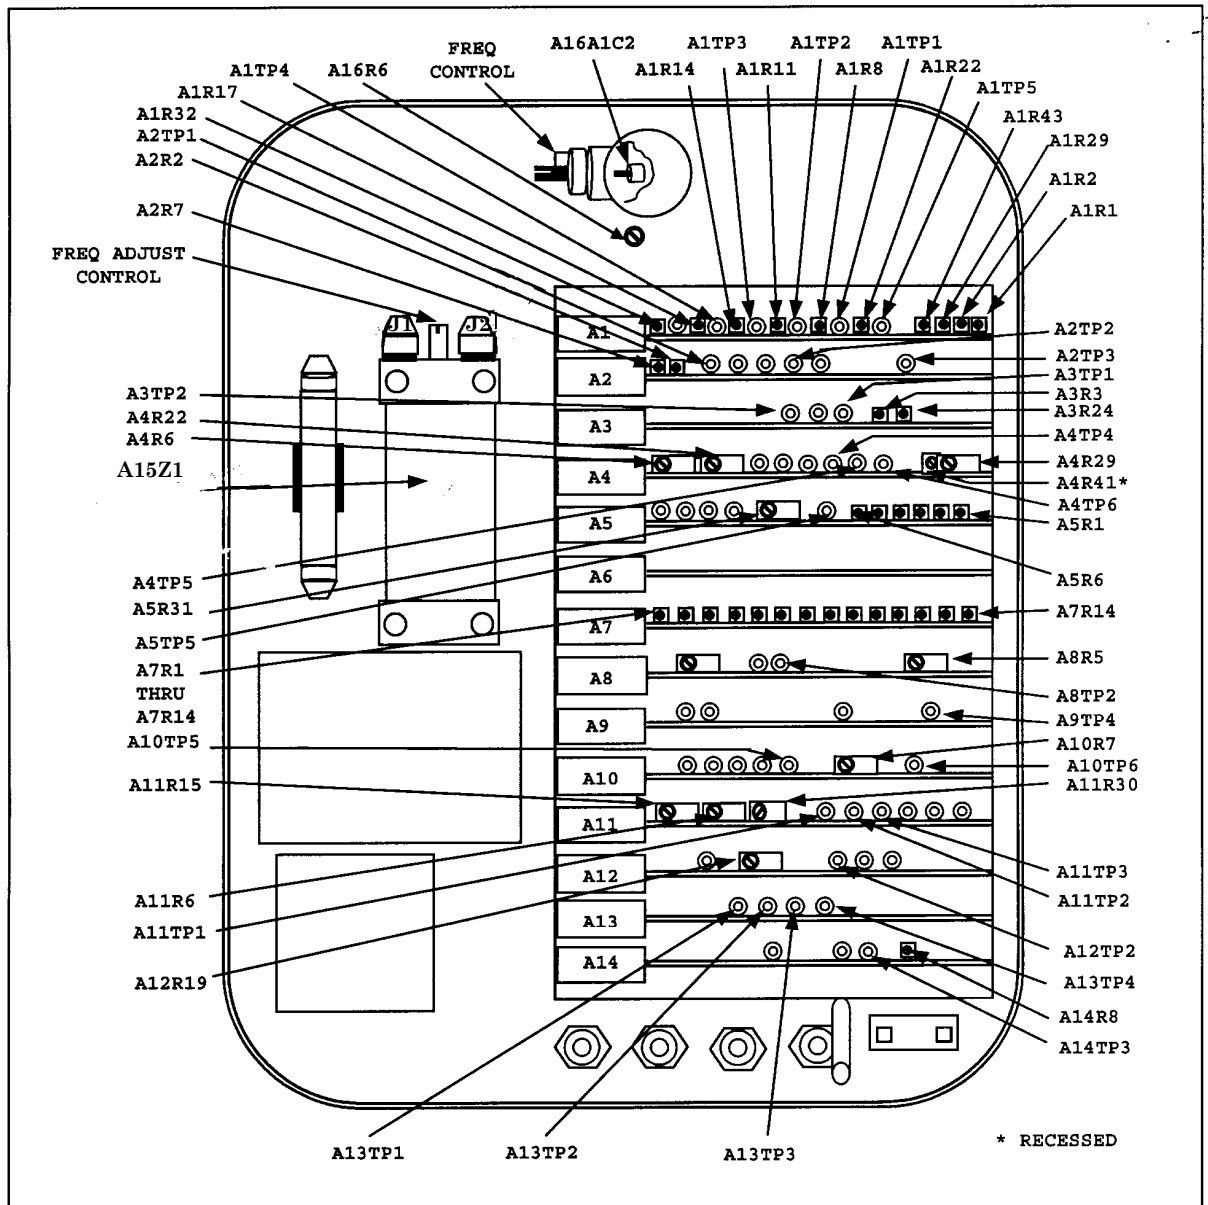
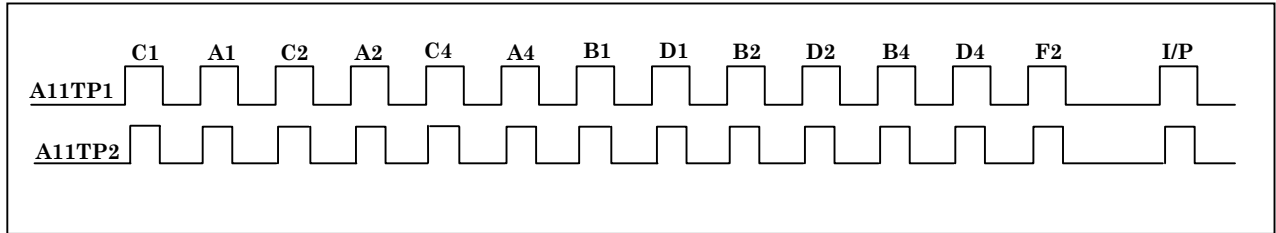

Figure 2. Test instrument adjustments and test points.
Figure 3. Comparison pulse position.
(1) Install variable attenuator between RTS **Main RF I/O** connector and circulator **PORT 1**. Set **Menu 11 RF** power to **0 dBm** and adjust variable attenuator for -9 dBm on peak power meter.
(2) On **Menu 11** set **CW** to **OFF**.
(3) Disconnect cable from peak power meter and reconnect to TI **Probe** connector. Adjust A8R5 (fig. 2) until **ACCEPT** light glows. Decrease RTS **RF** power by 1 dBm. TI **REJECT** indicator will glow.
(4) Remove variable attenuator and reconnect circulator to **MAIN RF I/O**.
(5) Repeat **a(1)** through (5).
(1) Disconnect cable from RTS oscilloscope **CH 1** to **DEMOD OUT** connector and connect oscilloscope **CH 1** (using X10 probe in RTS accessory kit) to test point A8TP2 of TI (fig. 2).
(2) On RTS select **Menu 10** and set **FREQUENCY** to **1090 MHz**.
(3) Loosen (slightly) locknut of TI **FREQ ADJ** control at preselector A15Z1 (fig. 2) and adjust **FREQ ADJ** control until displayed pulse is peaked (R).
(4) Retighten **FREQ ADJ** control locknut, while using a screwdriver to maintain a peaked pulse.
- (6) Loosen base plate of jack A15Z1J1 (fig. 2) and A15Z1J2 (fig. 2).
- (7) Remove jacks A15Z1J1 (fig. 2) and A15Z1J2 (fig. 2) from TI. Observe direction of each probe and mark position of one side on each jack.
- (8) Replace each jack and fasten A15Z1J1 (fig. 2) in position (mark pointing at **FREQ ADJ CONTROL**).
- (9) Position jack A15Z1J2 (fig. 2) using mark approximately 10 degrees from A15Z1J1 (fig. 2) mark. Fasten A15Z1J2 (fig. 2) in position.
- (10) Perform a(1), (2), and (4) above.
- (11) If the bandwidth is too broad, rotate the mark on jack A15Z1J2 (fig. 2) slightly toward mark on jack A15Z1J1 (fig. 2). If bandwidth is too narrow, adjust it slightly away from mark at A15Z1J1 (fig. 2).
- (12) Fasten jack A15Z1J1 (fig. 2) by replacing baseplate.
- (13) Determine bandwidth as described in a(1), (2), and (4) above. If necessary, repeat (11) and (12) above.
- (1) Disconnect cable from RTS oscilloscope **CH 1** and **DEMOD OUT** connector and connect X10 oscilloscope probe from **CH 1** to test point A10TP5 (fig. 2).
- (2) Connect second X10 probe (also from RTS kit) from oscilloscope **CH 2** to test point A4TP6 (fig. 2).
- (3) Press oscilloscope **AUTO-SCALE** pushbutton and set **TIME/DIV** switch to **1 μ s**. Delay from leading edge of second pulse on **CH 2** to trailing edge of pulse on **CH 1** should be between 1.6 and 2.0 μ s; if not, perform **b** below.
- (4) Disconnect oscilloscope **CH 1** probe from A10TP5 and connect to test point A8TP2 (fig. 2).
- (5) Disconnect oscilloscope **CH 2** probe from A4TP6 and connect to test point A9TP4 (fig. 2).
- (6) Press oscilloscope **AUTO-SCALE** pushbutton once again and set **TIME/DIV** switch to **2 μ s**. Delay between leading edge of last pulse on **CH 1** and trailing edge of pulse on **CH 2** will not exceed 6 μ s.
b. Adjustments. Adjust test instrument video enable delay control A10R7 (fig. 2) until delay from leading edge of second pulse on **CH 1** to trailing edge of pulse on **CH 2** is 1.8 μ s (R).
(1) Disconnect oscilloscope probes from test points A8TP2 and A9TP4 (fig. 2). Connect **CH 1** probe to test point A11TP1 (fig. 2).
(2) Set oscilloscope **TIME/DIV** switch to **100 ns**, **TRIGGER SOURCE** to **CH 1**, and adjust **HORIZONTAL POSITION** control to position pulse on **CH 1** for a pulse width measurement. If video pulse width is not between 0.65 and 0.7 μs , perform **b(1)** below.
(3) Disconnect oscilloscope **CH 1** probe from test point A11TP1 (fig. 2) and connect it to A11TP2 (fig. 2). If width of comparison pulse is not between 0.49 and 0.51 μs , perform **b(2)** below.
(1) Adjust control A11R6 (fig. 2) until pulse width is 0.675 μs (R).
(2) Adjust control A11R15 (fig. 2) until pulse width is 0.5 μs (R).
(1) Disconnect oscilloscope **CH 1** probe from test point A11TP2 (fig. 2) and connect it to test point A11TP1 (fig. 2).